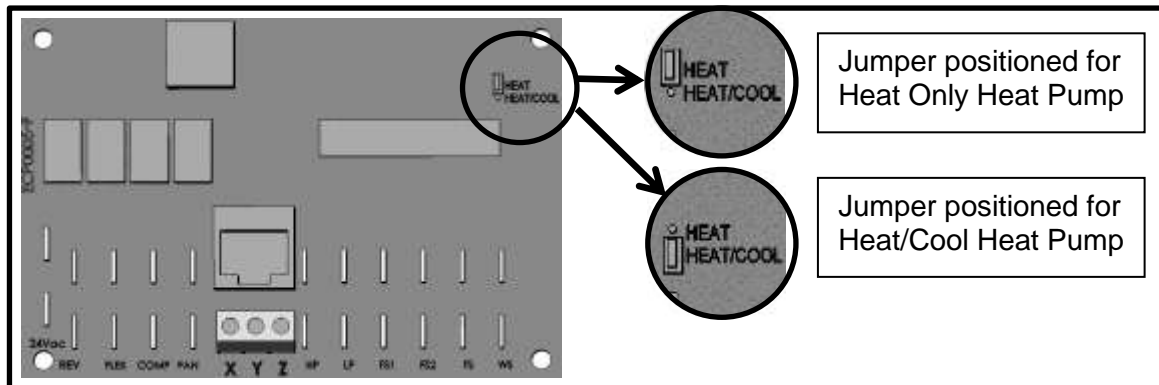

Figure 31
4. Remove and reposition jumper located at the upper right hand corner of control board. See Figure 31. Jumper must cover middle and lower pin as shown for "Heat and Cool".